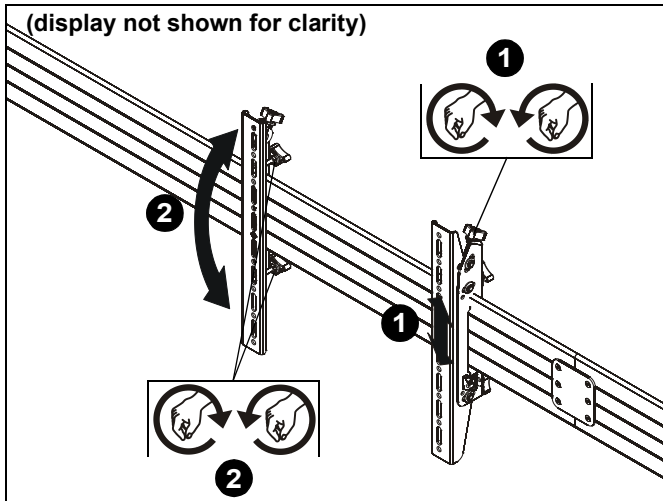

Figure 12
1. Use upper knob on back of interface brackets (A and B) to adjust the height of each display. (See Figure 12)